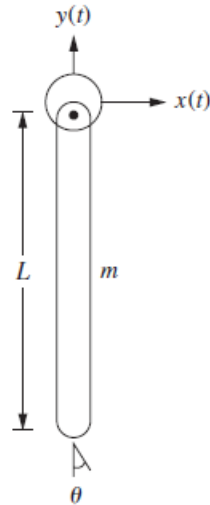

Figure P1.13
1.13 The differential equation governing the motion of the system of Figure P1.13 is